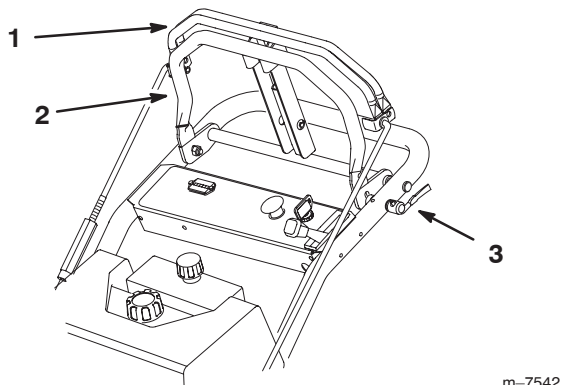

Figure 14
- Place the quick release levers in the unlock position (Fig. 14).
- Move the reference bar forward or backward to set the desired forward speed. The pointer indicates approximate ground speed (Fig. 14). When the bar is in the full forward position the ground speed is approximately 6 mph. When the reference bar is in the middle position the ground speed is approximately 3 mph.
- Place the quick release levers in the lock position (Fig. 14).
1. To go forward, slowly press on the upper control bar against the reference bar (Fig. 14).
2. To go straight, apply equal pressure to both ends of the upper control bar (Fig. 14).
3. To turn, release pressure on the upper control bar side toward the direction you want to turn (Fig. 14).
4. Adjust reference bar to maintain a comfortable pre-set ground speed (Fig. 14).
5. To stop, release the upper control bar to stop both wheels (Fig. 14).
1. To go backward, slowly pull the control bar rearward (Fig. 14).
3. To turn, release pressure on the upper control bar side away from the direction you want to turn (Fig. 14).
4. To stop, release the upper control bar to stop both wheels (Fig. 14).
1. To stop, release the upper control bar to stop both wheels (Fig. 14).